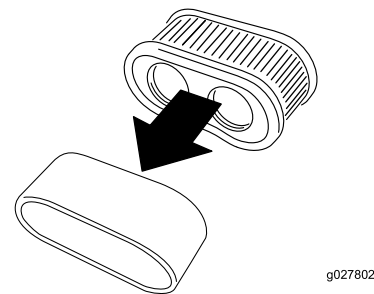

Figure 39
5. Remove the foam element from the paper element (Figure 39).